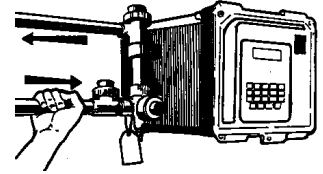

Figure 2
4. Direction of flow should be from the bottom to the top of the flow assembly so the flow monitoring switch will operate properly (see *Figure 2*).